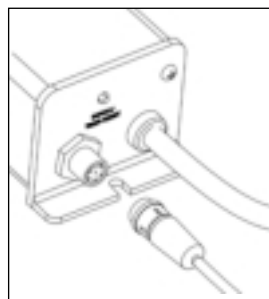
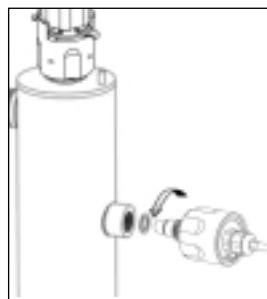

Figure 4B
Figure 4C
1. Before removing the sensor assembly, follow the steps as outlined in the "Quartz Sleeve Replacement And/Or Cleaning" section. The quartz sleeve should be cleaned at the same time as the UV sensor. Disconnect the UV sensor from the controller by disconnecting the sensor cable, turning the collar counter-clockwise (Figure 4B). To remove the sensor, grasp the body of the sensor and rotate counter-clockwise (Figure 4C) until the sensor is free of the threaded sensor port.
3. Ensure sensor lens is rinsed free of cleaning solution. Carefully re-assemble the sensor assembly with o-ring (Figure 4E) into the sensor boss. Screw the sensor into the boss and tighten to achieve a water-tight seal. DO NOT OVERTIGHTEN. Attach the sensor cable to the controller and return to service (Figure 4B).